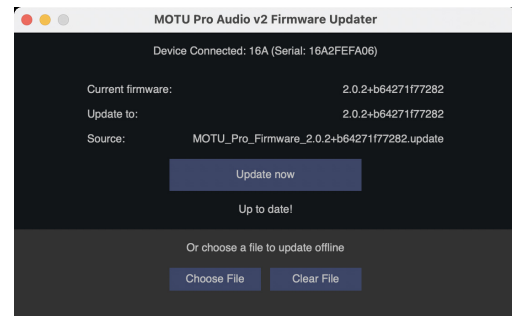

Figure 6-11: The 848 Firmware Updater app.
☞ This step requires that the unit already has firmware version 2.1.5 or later. If not, use the Firmware Updater app (Figure 6-11 on page 58), accessed from the File menu.
- 1** Choose *File menu > Open Firmware Updater* to launch the updater app (Figure 6-11).
- 3** Once the firmware image is loaded, click the *Update Now* button (Figure 6-11).